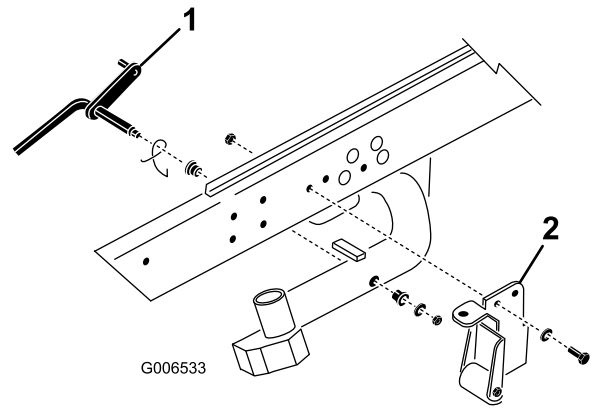

Figure 3
1. Remove the lock nut and washer securing the pivot rod to the #2 lift arm (Figure 3). Remove the pivot rod and spring from the lift arm. Repeat the procedure on the #1 and #3 lift arms.
Note: The tipper bracket w/roller and the tipper support brackets are not required when operating the DPA cutting units (Figure 3). They may be removed if desired.